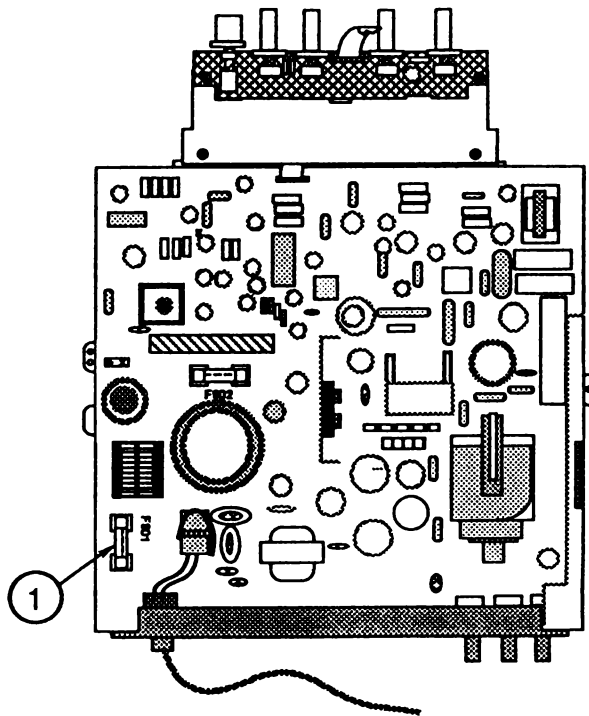

FIGURE 58
3. Remove fuse F901 (Figure 58, #1). Gently pry up one end of the fuse with your fingers or a flat-blade screwdriver and lift the fuse out.